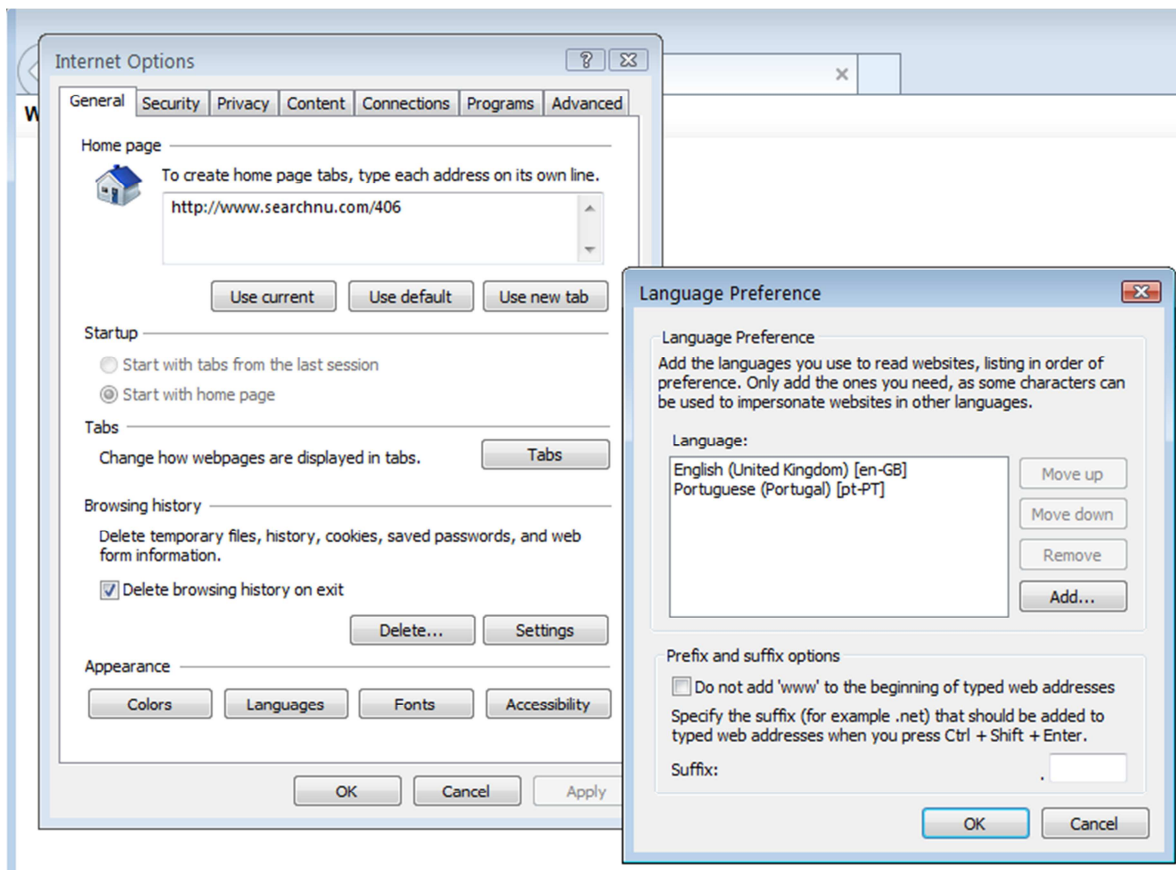

Figure 5 – Setting the language settings on the Internet Explorer.
If necessary, you can change the language settings in your browser. In Internet Explorer (R) under Microsoft Windows, for instance, this is done via Tools / Internet Options / General / Languages, see Figure 5. For other browsers please refer to their user manual or help system.